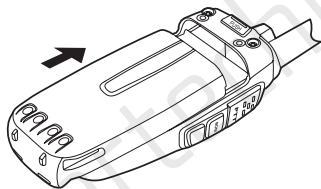

Figure 1
1. Line up the battery slots with the guide situated on the aluminium case, making sure that both are in contact and aligned, slide the battery towards the upper transceiver's part until the battery fastening button locks it. (Figure 1)